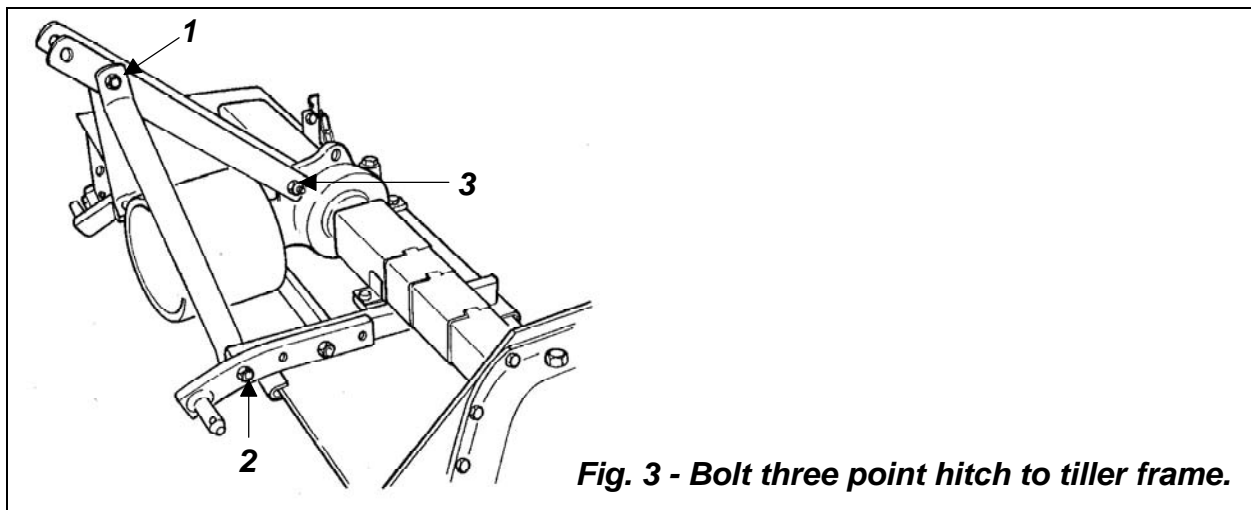

Fig. 3 - Bolt three point hitch to tiller frame.
3. Bolt the hitch together (**see fig. 3**), and bolt it to the tiller⁵.